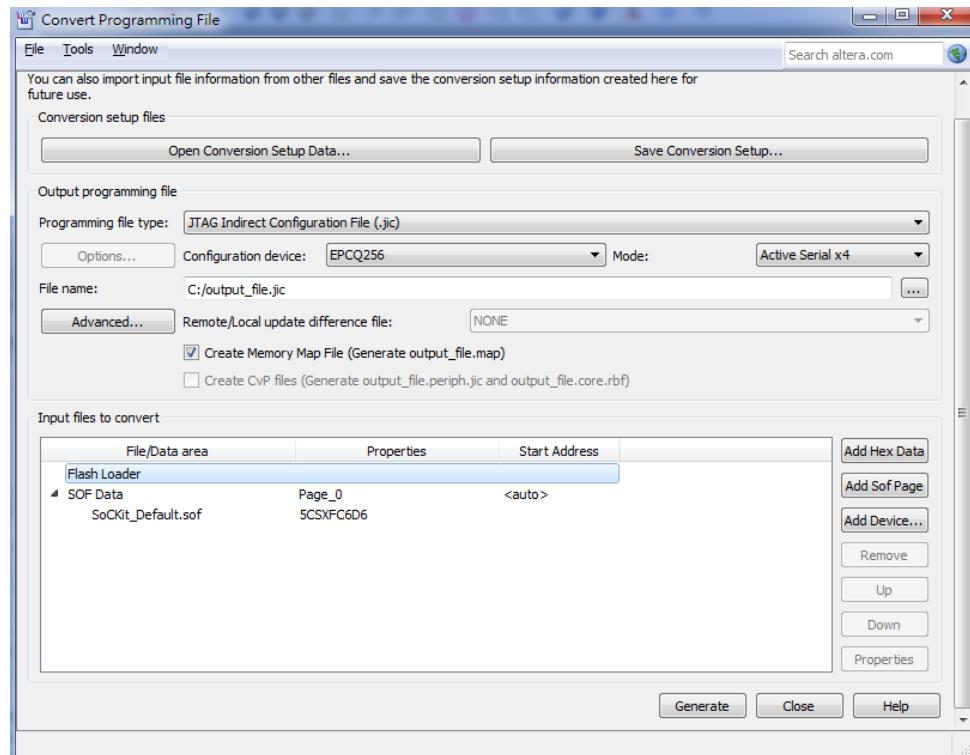

Figure 6-3. Highlight Flash Loader
10. Highlight the Flash Loader and click **Add Device**. See Figure 6-3.